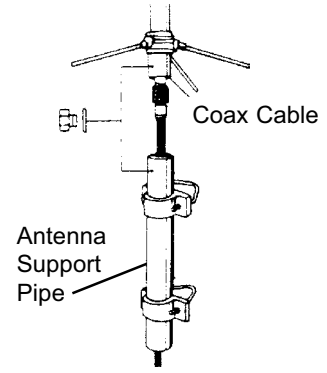
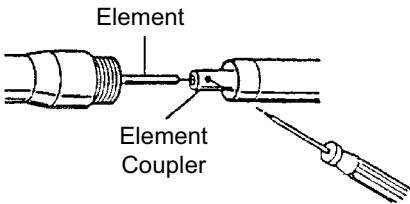
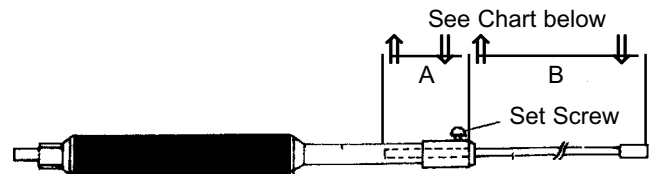

Figure 5
Figure 2
Figure 7
- (1) Remove antenna sections from package and note how sections are tapered to fit together at the Section Joint Assembly.
- (2) Upper & Lower Section Joint Assembly. Lay the Upper and Lower Sections in a line end to end. Connect the antenna elements at the Element Joint as seen in Figure 2. Tighten the two set screws. (It may be necessary to slide the brass antenna element slightly out of the upper section in order to fit into the Element Joint Coupler.)
- (3) Carefully insert upper fiberglass section into lower fiberglass section. The black line should be touching lower section. Slide gasket holder down to meet lower section joint. Verify proper seating of gasket. Thread upper joint nut onto lower joint. Verify proper seating of gasket. Thread upper joint nut onto lower joint. Do not overtighten.
- (4) Fasten radials and secure lock nuts. Figure 7 depicts 6m counterpoise.
- (5) 6m Adjustment. Support antenna about 10' above ground. Measure VSWR. Adjust counterpoise radial length for best VSWR at desired operating frequency (see tuning chart below figure 7).
- (6) Before final installation, check VSWR on 2m & 70cm. (No adjustment is possible on these two bands.)
- (7) Attach mast brackets to Antenna Support Pipe. Pass the coaxial cable through the bottom of the Antenna Support Pipe. Connect coaxial cable to the feed point (Figure 5). Align hole on Antenna Support Pipe with threaded hole at bottom of antenna. Insert screw with lock washer and tighten (Figure 5).